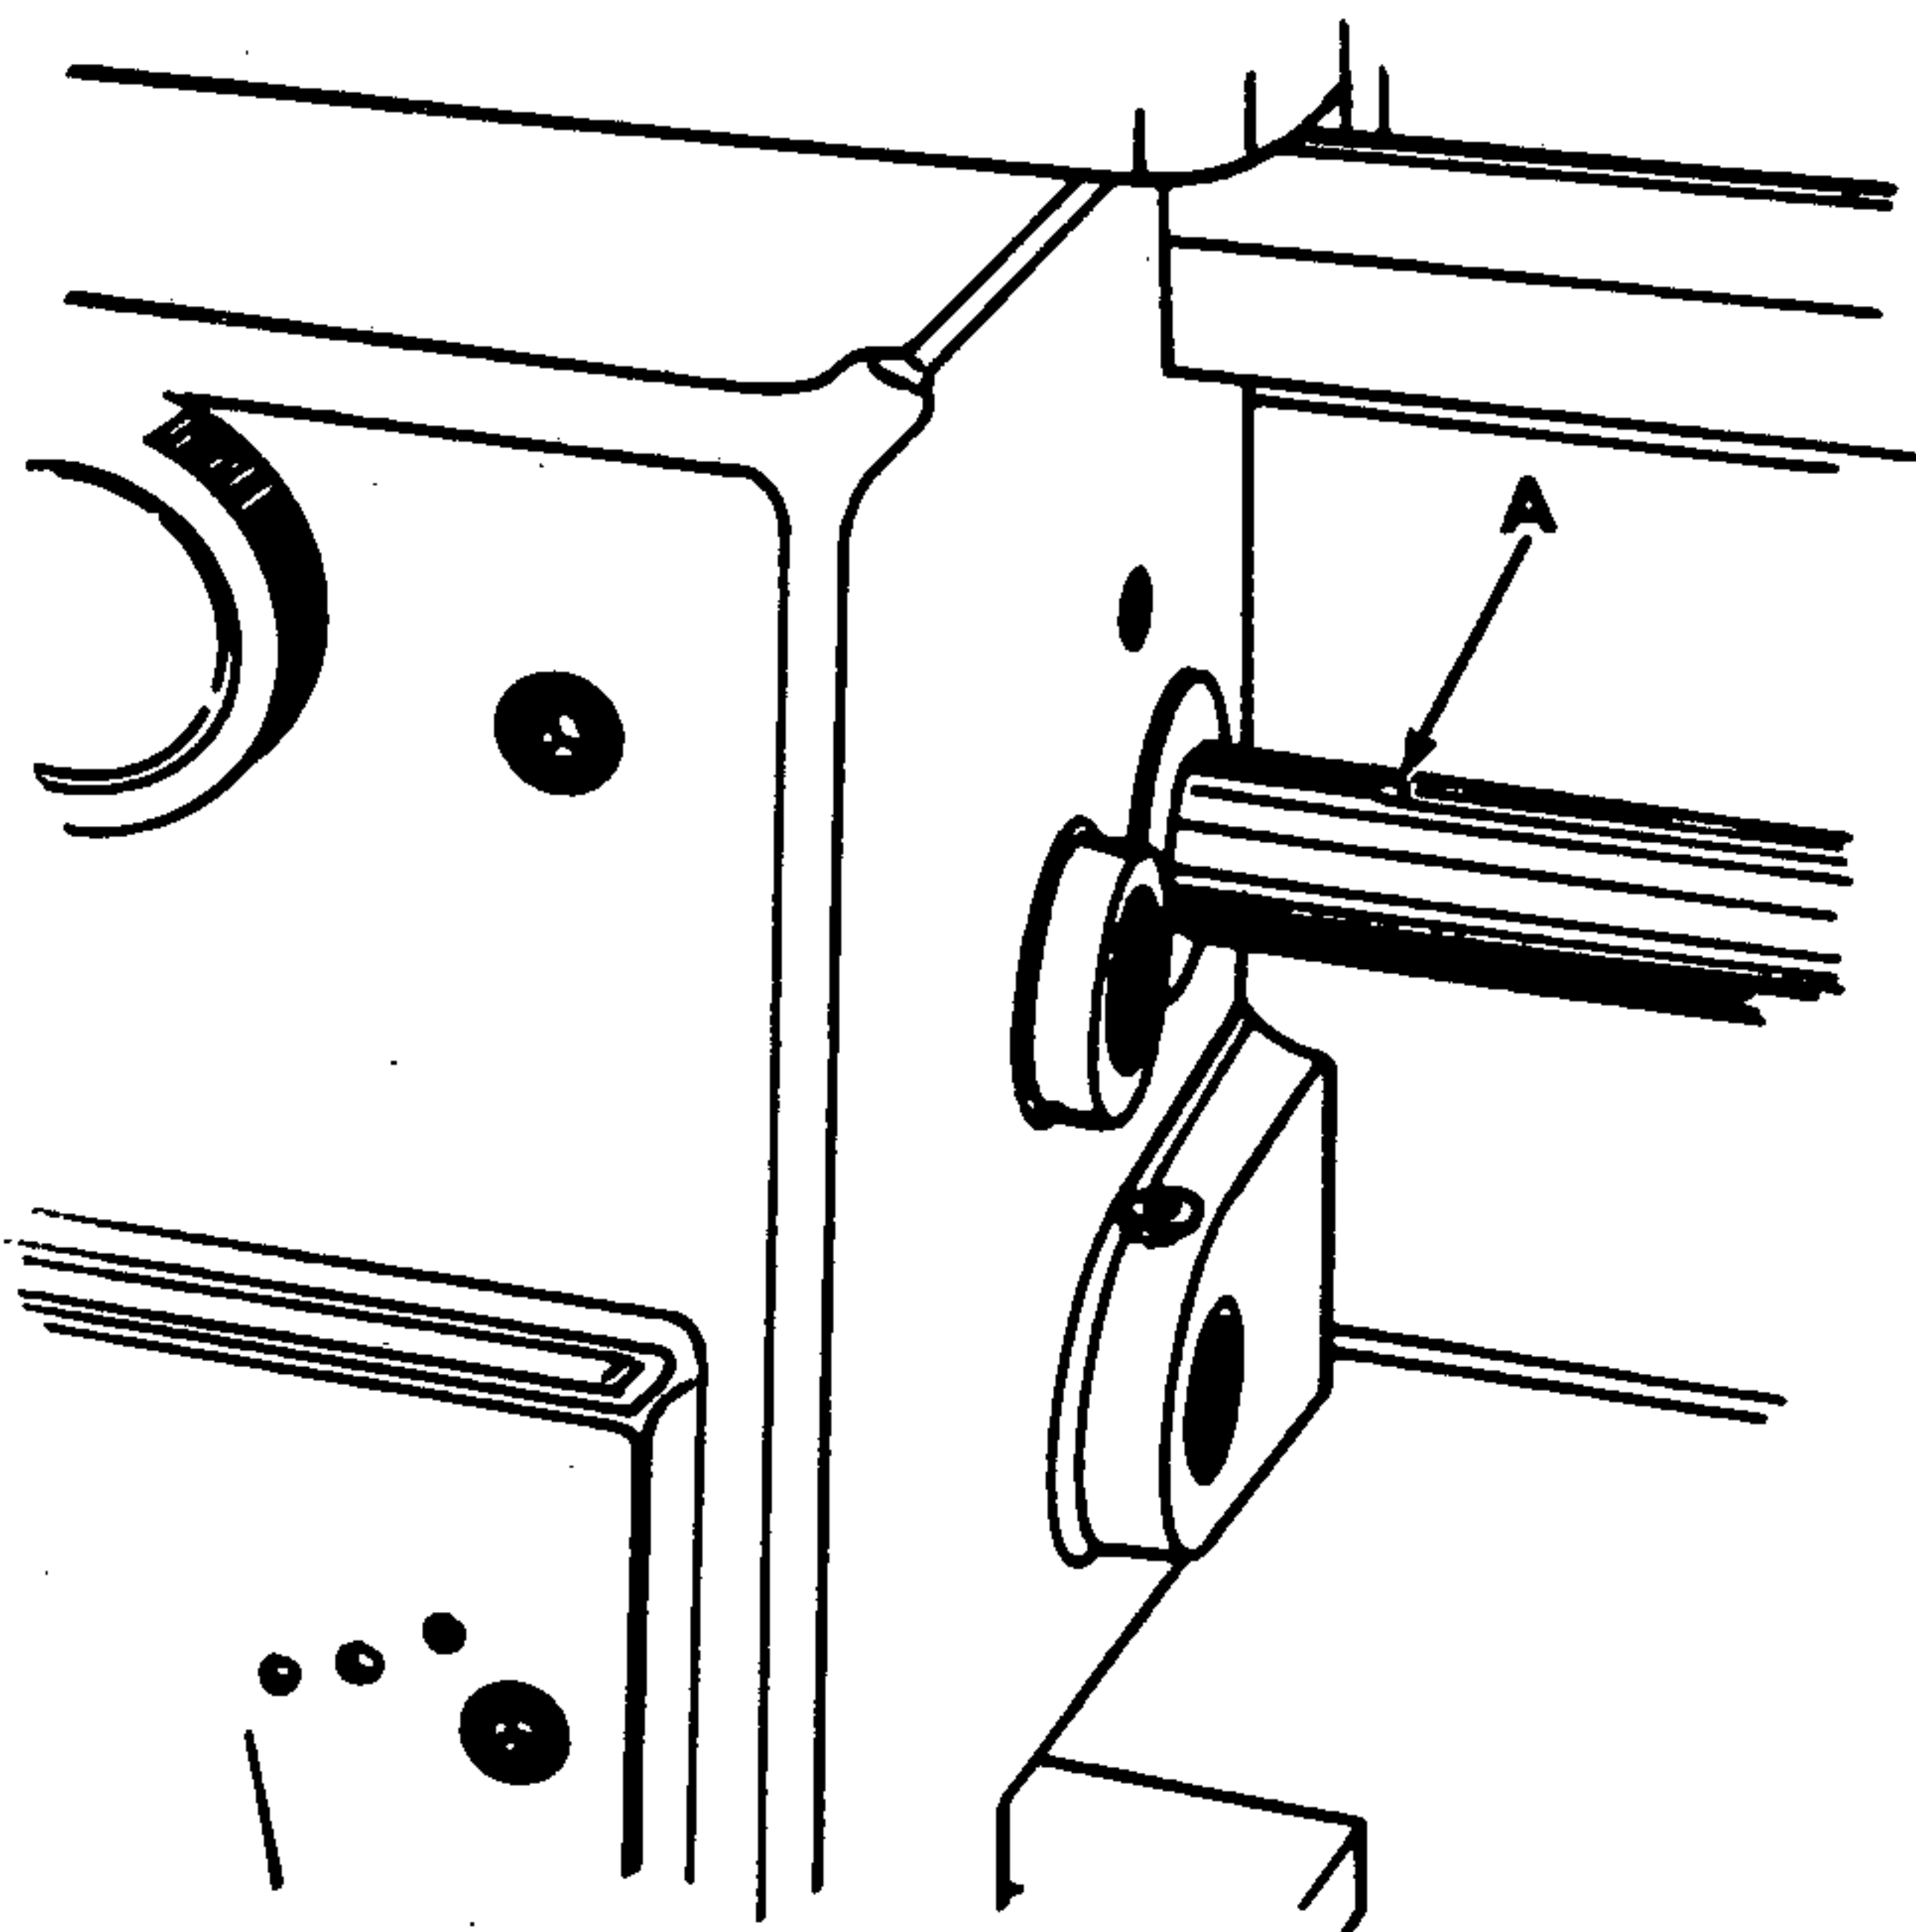

Figure 24
3. Remove sheared pin (A, fig. 24) from gear box shaft and lead screw.